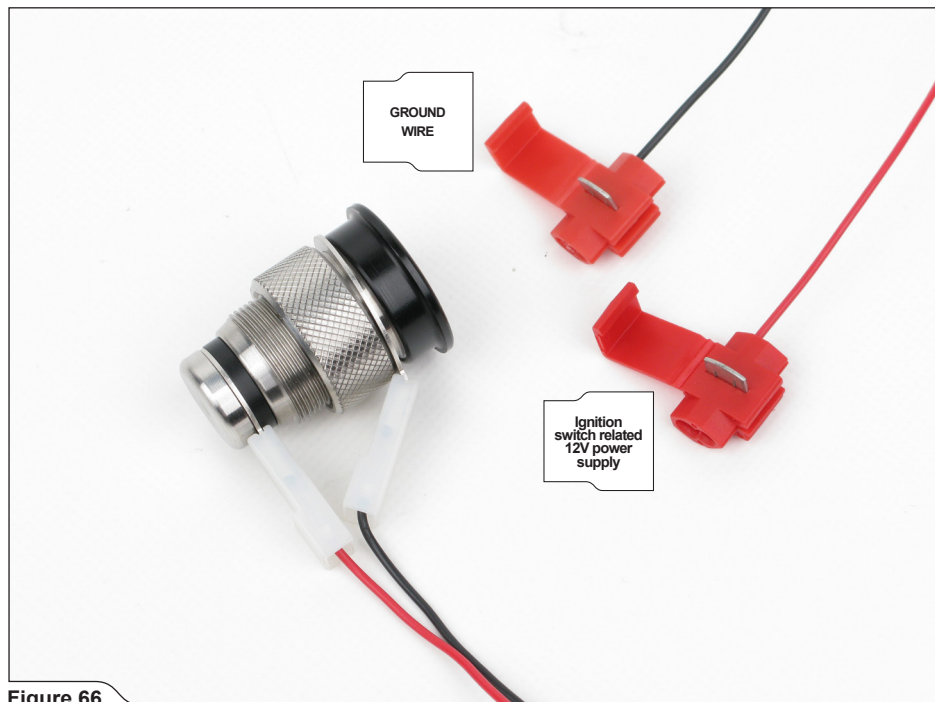

Figure 66
27. **For wireless kit installation:** correctly assembled dashboard or additional bracket mounted keyfob components (**Figure 66**).